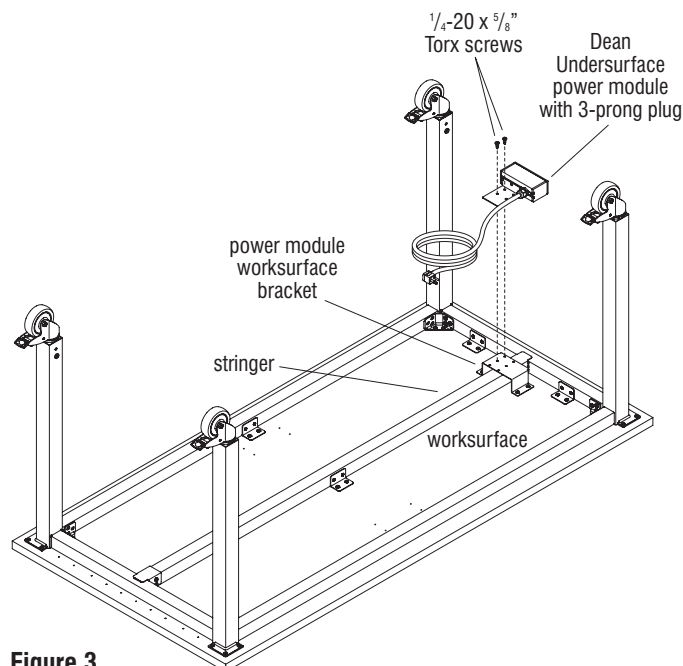

Figure 3
2. Align the mounting holes of the Dean undersurface power module with the mounting holes on the outside of the worksurface bracket. Secure the power module to the bracket using two 1/4-20 x 5/8" Torx screws, in a straight line, with no screws over the stringer (Figure 3 & Detail E).